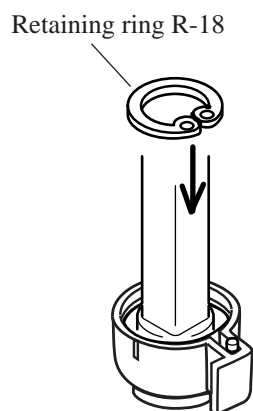

Fig. 16
3. Push rod into blade holder, and assemble retaining ring R-18 to the groove in blade holder as illustrated in Fig. 16.